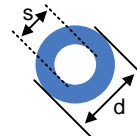

Figure 8-2. PowerPAD™ Layout Recommendation
- The thermal pad should be tied to the PCB ground plane with a minimum of 25 vias. See Figure 8-2 for an example.